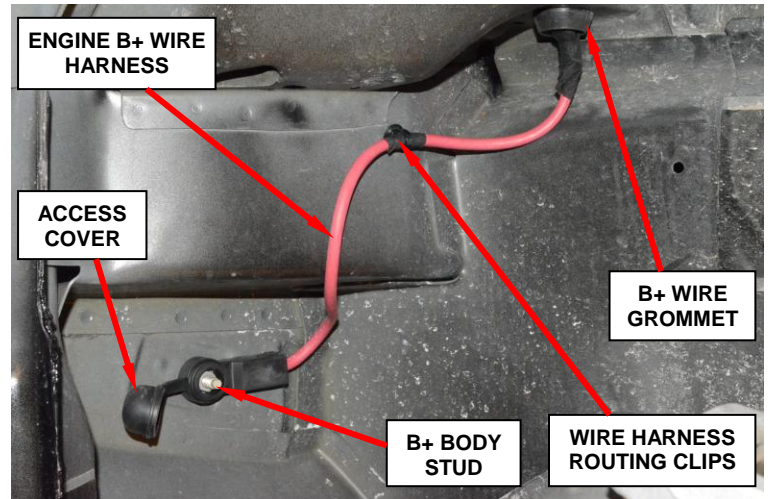

Figure 5 – Engine B+ Wire Harness
21. Disconnect the engine B+ wire harness from the B+ stud on the body that is located in the right wheel opening (Figure 5).